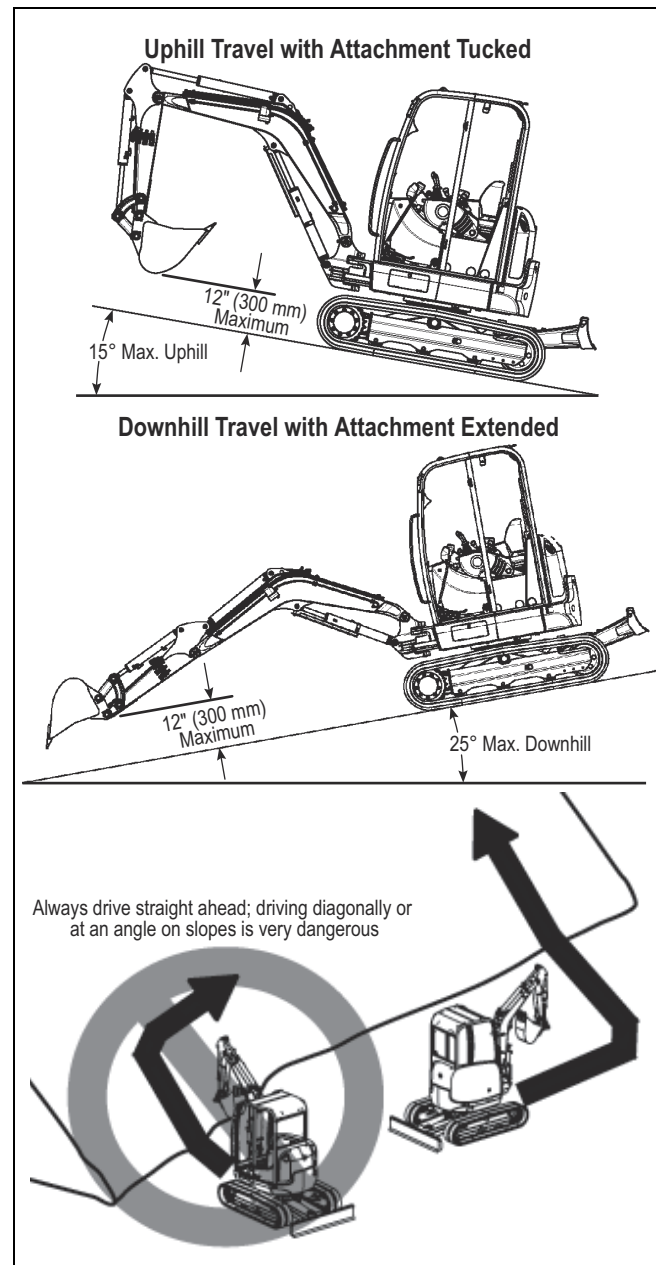

Figure 3-28 Traveling Up or Down Slopes
3. Travel straight up or down slopes, never travel across the slope. See Figure 3-28. Extend the dipper arm and lower the boom to keep the bucket about 12" (300 mm) off the ground. If the machine starts to slide or becomes unstable, lower the bucket to regain control. If the engine stalls, lower the bucket, make sure all controls are in the neutral position and restart the engine.
- Travel straight up and down slopes—never across. See Figure 3-28.
- See Figure 3-28 on where to place the dipper arm, boom and bucket for uphill and downhill travel. Raise the bucket no higher than 12" (300 mm) off the ground for better stability. If the machine starts to slide or becomes unstable, lower the bucket to regain control. If the engine stalls, lower the bucket, be sure that all controls are in the neutral position and restart the engine.